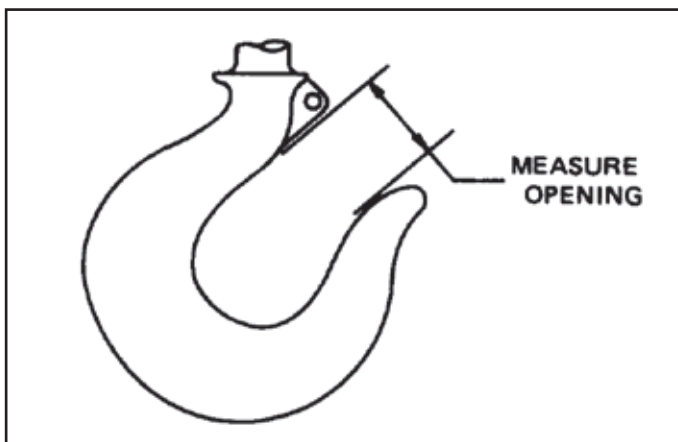

Figure 5-5. Lower Hook Opening
- as. DO NOT operate hoist with hooks that have opened up. See Figures 5-5 and 5-6.
(1) Check for bent or distorted hook. If hook is opened beyond the dimension given in figure 5-5, it must be replaced. Also check to see that hook swivels and is free to pivot. Lubricate these points if necessary.